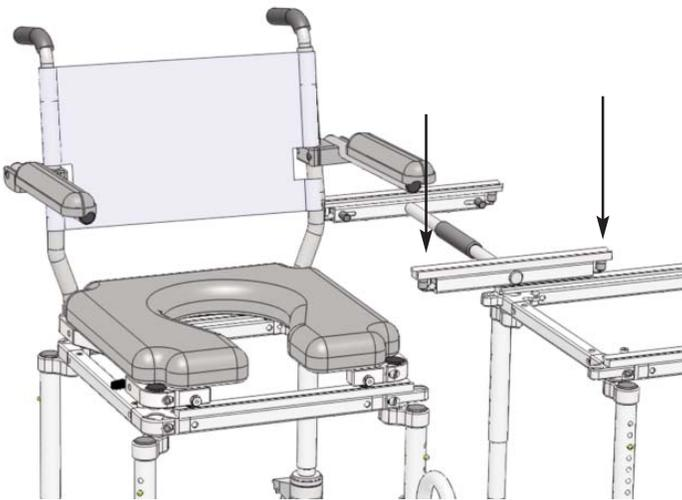

Figure 5
- F Place the connector bridge into the matching holes on both the roll-in section and tub section (Refer to Figure 5).**